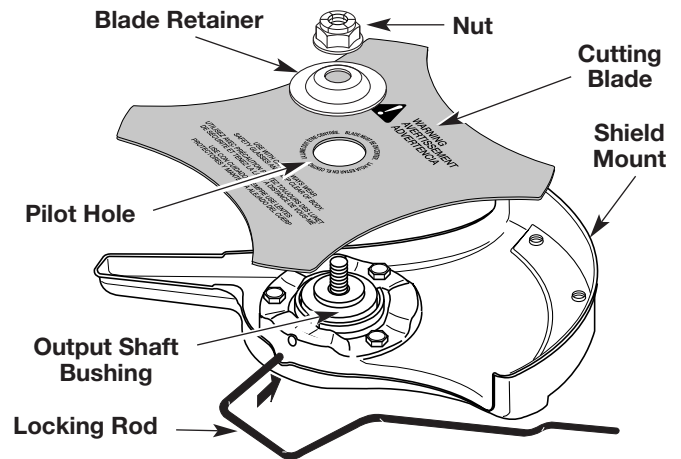

Fig. 10
4. Place the cutting blade on the output shaft bushing (Fig. 10).